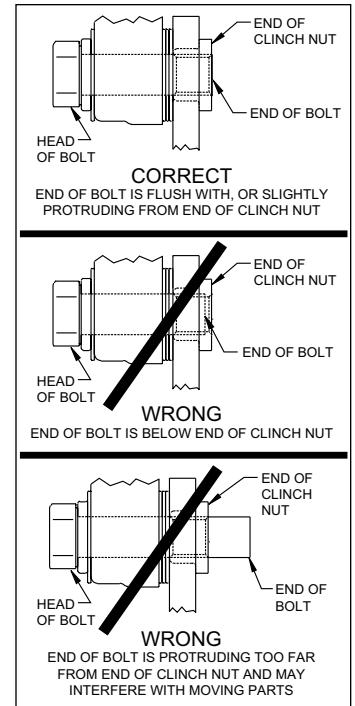

Figure 7. Clinch Nut Engagement Diagram
CAUTION: All mounting bolts must fully engage clinch nuts. Be sure to check that all bolts are either flush or protruding through flanged side of clinch nut after shimming, Figure 7.
of the caliper. The rotor should be centered in the caliper, Photo 6. If not, adjust by adding or subtracting shims between the bracket and the caliper. Always use the same amount of shims on each of the two mounting bolts. **NOTE:** The end of each bolt must be flush with or slightly protruding from the head of the clinch nut, as shown in Figure 7. If necessary place spare shims between washer (5) and caliper mounting ear to achieve the proper clinch nut engagement. Once the caliper alignment and clinch nut engagement are correct, remove the bolts one at a time, apply red *Loctite*® 271 to bolt threads, and torque to 40 ft-lb.